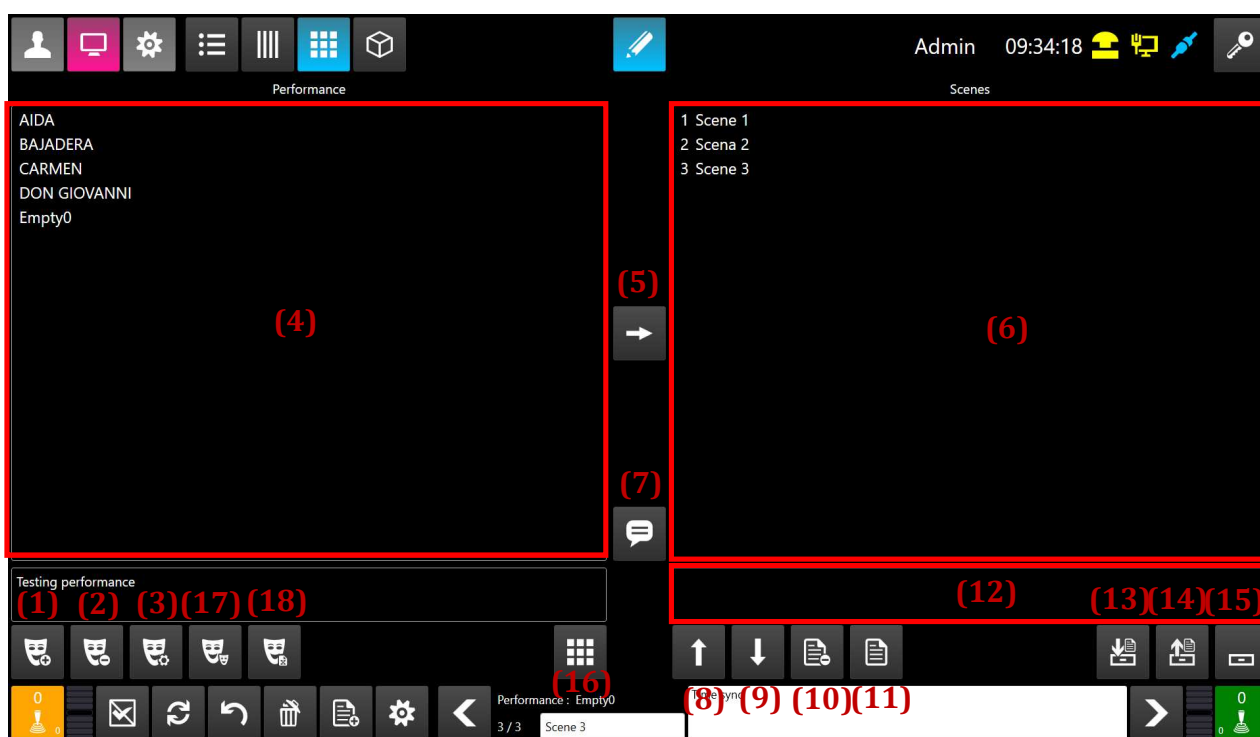

FIG. 33: EDITING PERFORMANCE
To be able to work with the automatic device travel mode, it is necessary to create at first a new performance or to load the already existing performance. When pressing the key Performance (see Fig. 23 - (4)) in the automatic mode, the requested tab is opened. The tab is divided into two parts. The left part shows the list of performances, the right part - the list of scenes of the highlighted performance. (See Fig. 33).
scene. If we don't select one, the copied scene will be pasted to the end of the list. We choose a scene from the memory box and paste it to the performance by clicking the button (14). To empty the memory box, press the button (15). More in the Fig. 33, respectively in the description table below it.